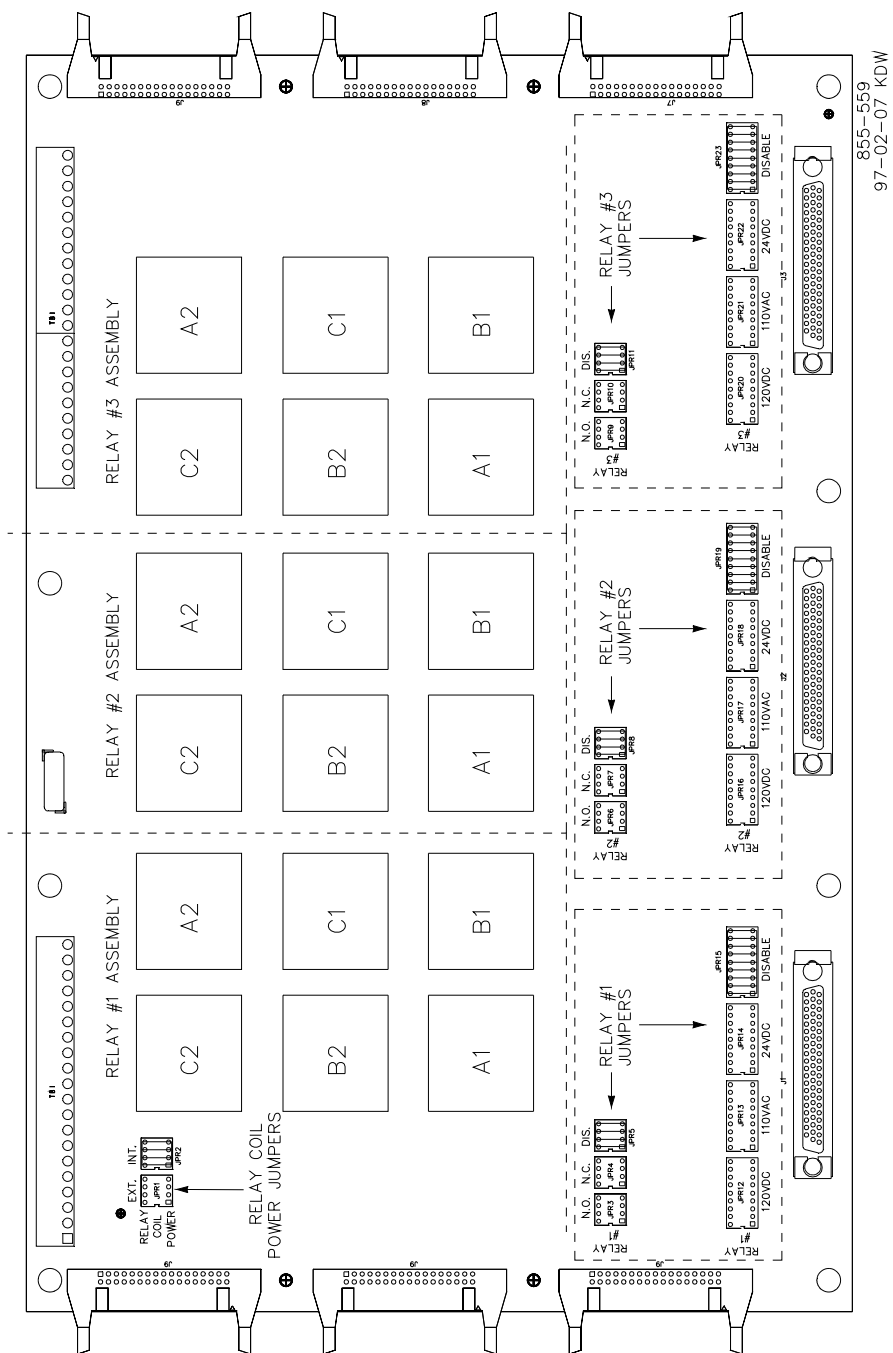

Figure 4-17. Jumper and Relay Location Diagram
1. Verify that circuit the relay output is used with has a voltage level of 18–32 Vdc, 100–150 Vdc, or 88–132 Vac. If circuit voltage is not within these ranges, disable the relay output's latent fault detection by placing the relay jumpers in their disable state. See Figure 4-17.